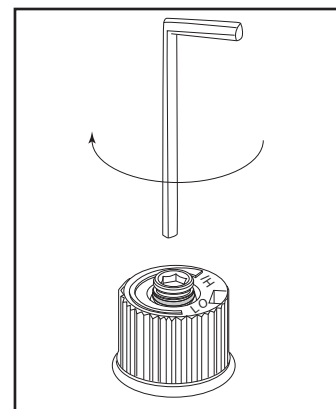

Figure 7.5
- Using the Allen wrench as shown in Figure 7.5, rotate the screw clockwise and tighten until snug.